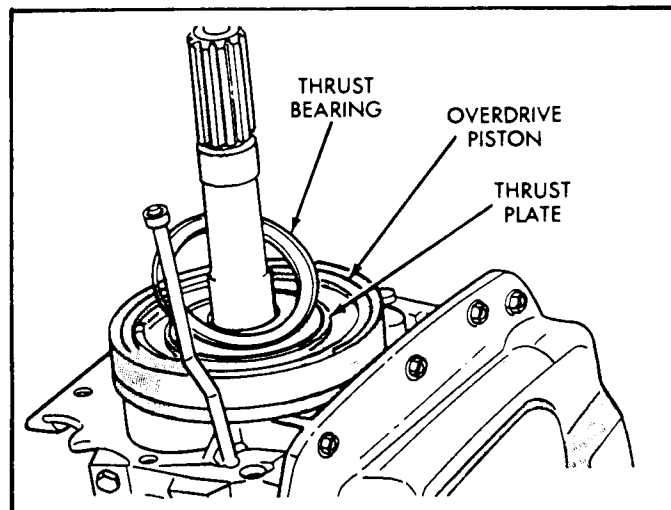

Figure 6
11. Remove the thrust bearing and selective thrust washer from overdrive piston, as shown in Figure 6.